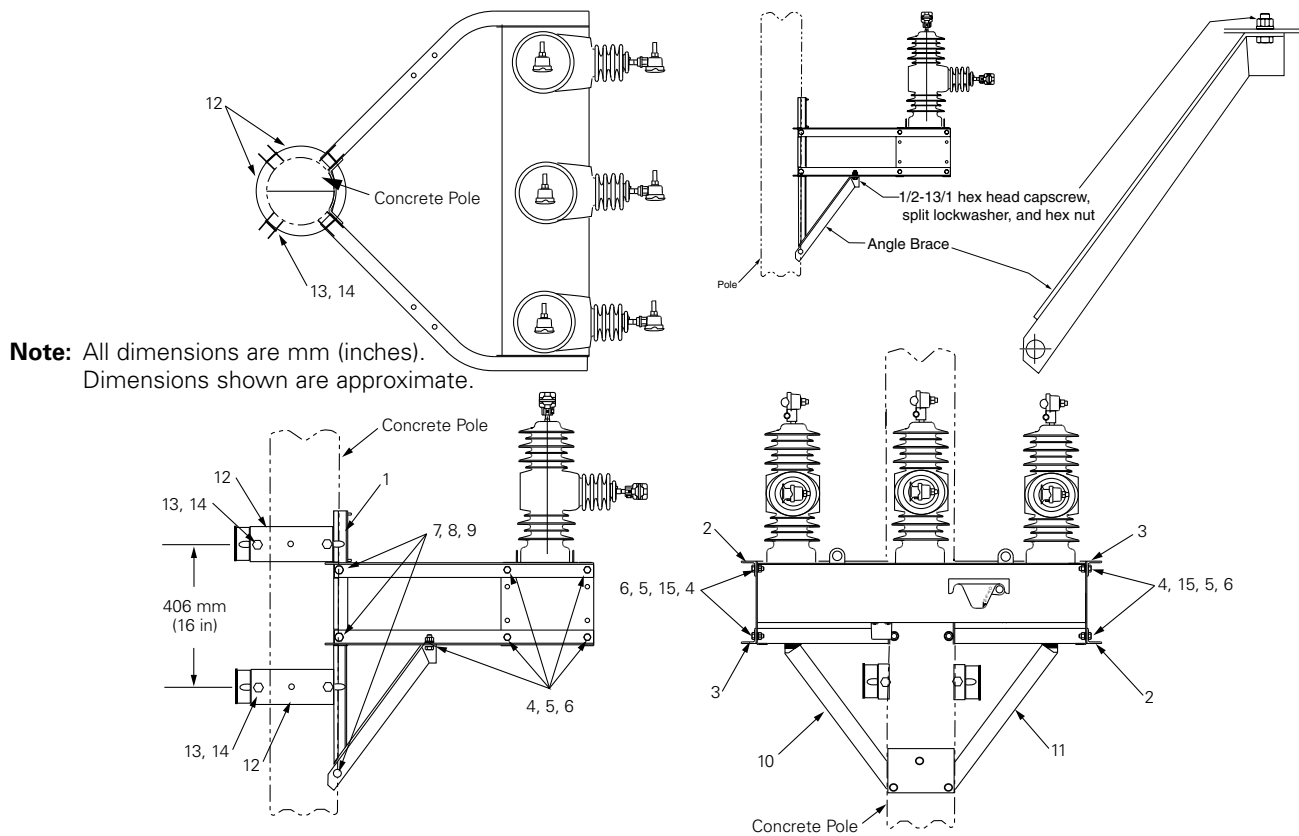

Figure 4. KNOVA-54-4 pole-mounting hanger.
2. Orient the brackets as illustrated in Figure 4.
7. Attach the angle braces (Items 10 and 11) to the bottom of the two brackets (using holes closest to switchgear) using two 1/2-13x1-1/2 hex head capscrews, split lockwashers, and hex nuts (Items 4, 5, and 6). Refer to Figure 4 for proper orientation.
The hanger is mounted to the pole on 406 mm (16 Inch) centers. (See Figure 4.)
2. Attach the spacer plates (Item 12) to the channel and each other to encircle the pole using two 3/4x6-1/2 bolts and square nuts (Items 13 and 14). Place two nuts on each bolt, one nut on either side of the spacer plate. See Figure 4.